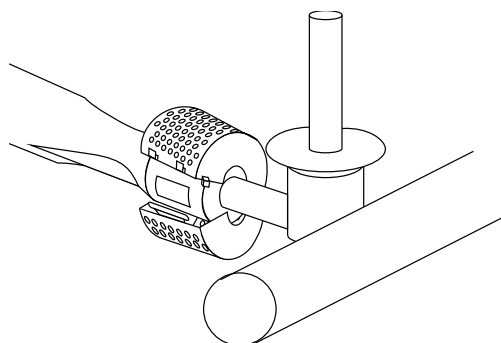

Figure 13
- Unlatch the Spider Stopper Guards and remove. Figure 13.